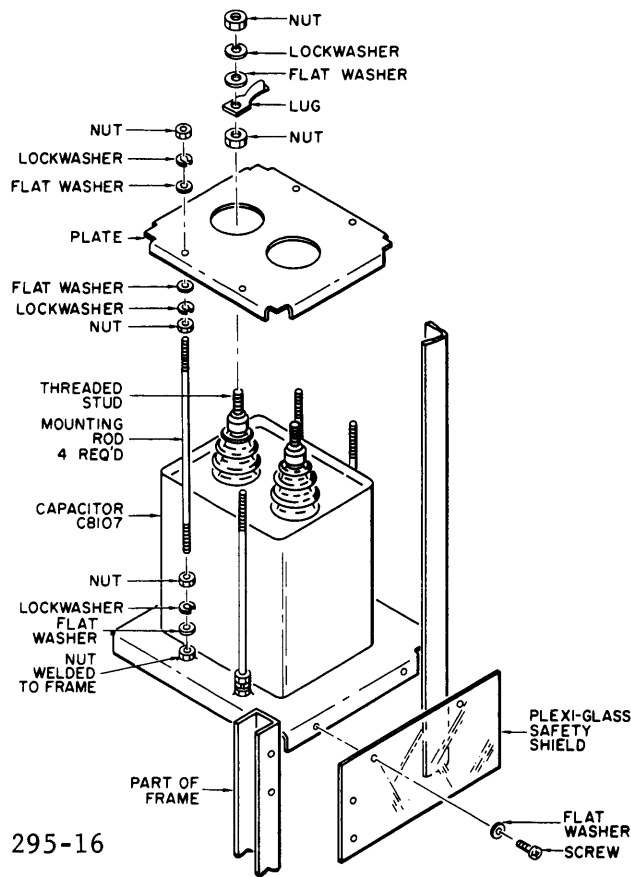

Figure 4-12. Filter Capacitor, Installation Diagram
- b. Temporarily remove plexi-glass safety shield, figure 4-12, mounted on rear of fourth frame.
- e. Replace capacitor mounting assemblies (figure 4-12).